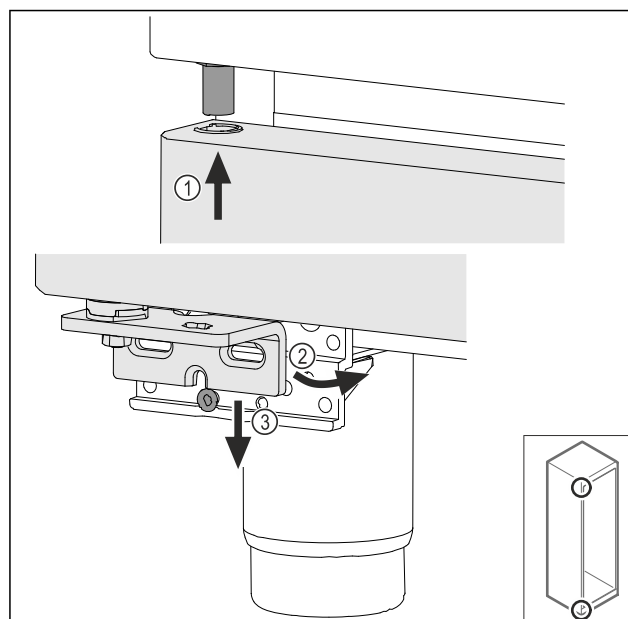

Fig. 40
- Insert the door slightly tilted at the top Fig. 40 (1), align the door straight Fig. 40 (2) and place it on the bottom of the swap bearing block screw Fig. 40 (3).